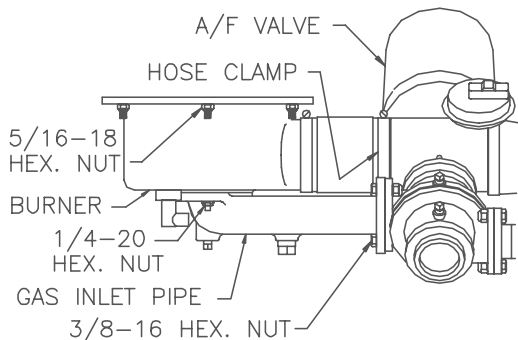

Figure 7.3
7. Using a 7/16" socket or open end wrench remove the four 1/4"-20 nuts on the gas inlet pipe flange at the burner (See Fig. 7.3).
8. Using two 9/16" wrenches remove the 3/8"-16 hex nuts and bolts on the gas inlet pipe flange at the air/fuel valve (See Fig. 7.3).
9. Loosen the hose clamp nearest the air/fuel valve outlet on the air/fuel valve to burner adapter (See Fig. 7.3).
10. Using a 1/2" socket wrench remove six 5/16-18 hex nuts supporting the burner (See Fig. 7.3).